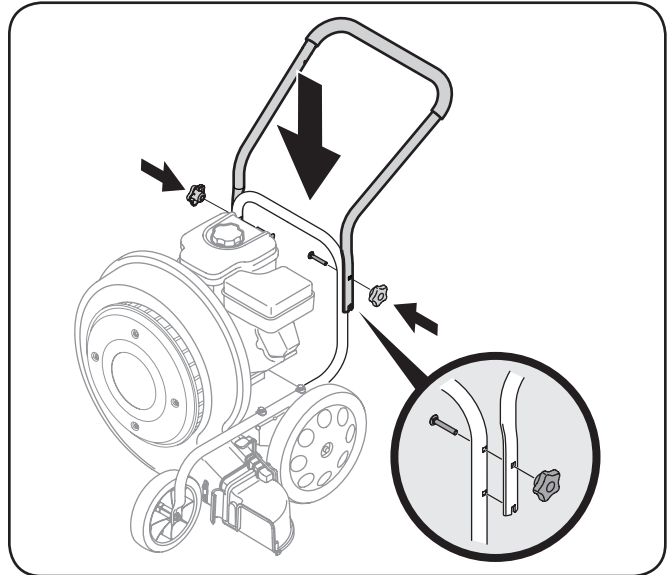

Figure 3-2
2. Place the upper handle over the lower handle, aligning the upper holes/metal tabs in the upper handle with the upper holes/lower holes in the lower handle. See Figure 3-2.
3. Secure with the carriage screws and star knobs removed earlier. See Fig. 3-2.